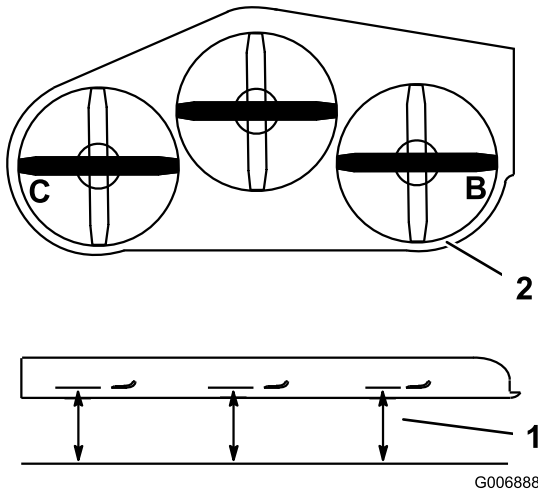

Figure 79
- Measure at the **B** and **C** locations from a level surface to the cutting edge of blade tips (Figure 79).